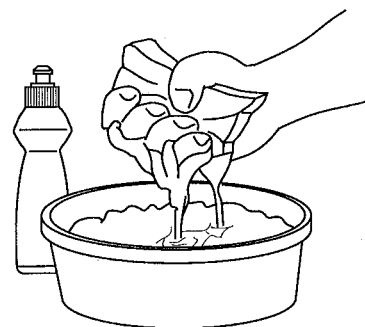

Figure 23
3. Wash air filter in laundry detergent or kerosene (Fig. 23).